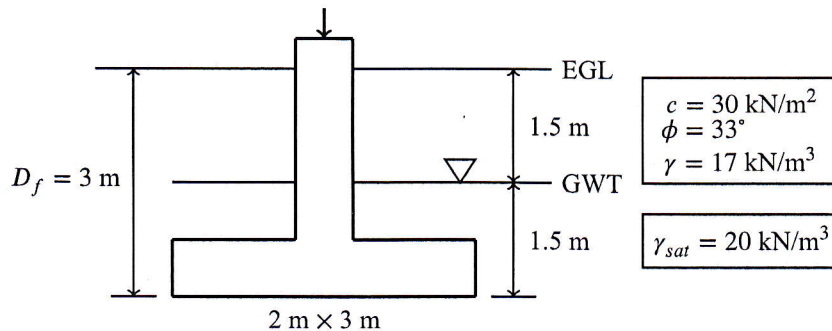

Figure 1: for QUES 2
2. For the rectangular shallow foundation shown in the following figure (Fig. 1), determine: (12.5)